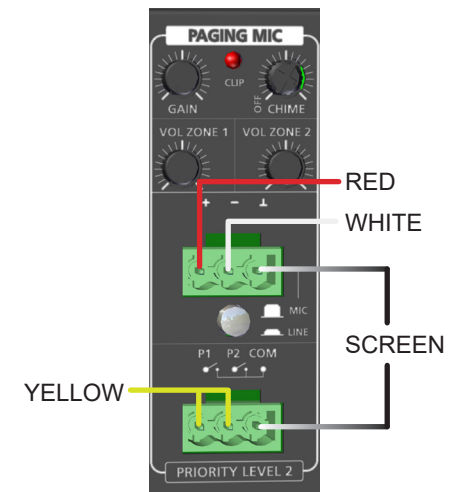

Figure 4b. MICPAT-D Wiring
1. Connect the MICPAT-D to the PREZONE2 as shown in Figure 4b.